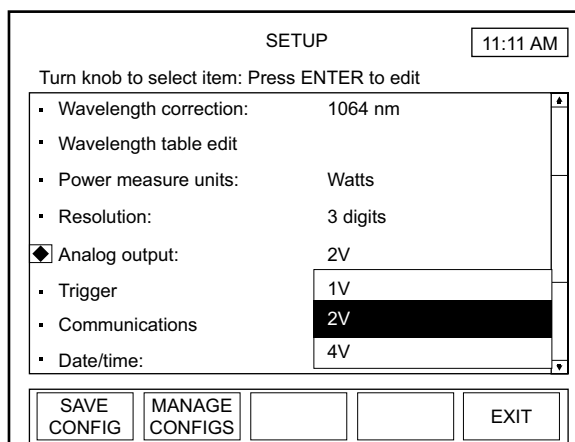

Figure 4-41. SETUP: Analog Output
2. Press the ENTER/SET button to display a dropdown list of available voltages (similar to the list shown in Figure 4-41).